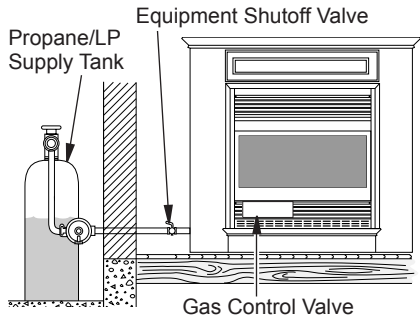

Figure 26 - Checking Gas Joints (Propane/LP Only)
3. Check all joints from gas meter to equipment shutoff valve for propane/LP supply to equipment shutoff valve for propane/LP (see Figures 26 or 27). Apply noncorrosive leak detection fluid to all joints. Bubbles forming show a leak.
4. Check all joints from equipment shutoff valve to gas control valve (see Figures 26 or 27, page 19). Apply noncorrosive leak detection fluid to all joints. Bubbles forming show a leak.